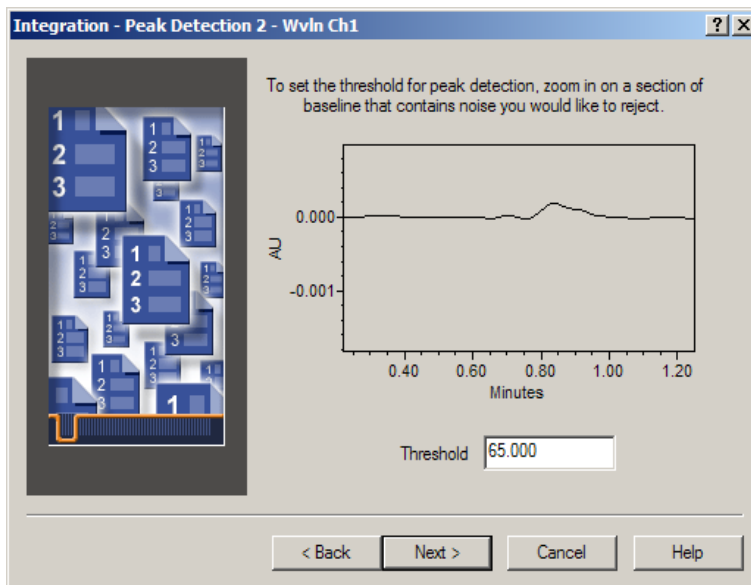

Figure 4-19 Setting the Threshold Parameter
7. Follow the wizard instructions and use the mouse to draw a zoom box that encloses the area of the baseline that contains the greatest amount of noise and no peaks of interest (approximately 0.2 to 1.2 minutes). The software displays the zoomed selection and determines the appropriate threshold value (Figure 4-19).